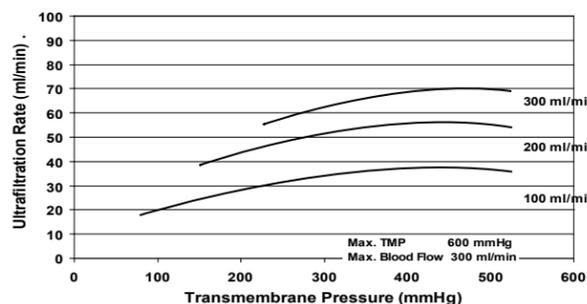

Figure 1: Fresenius HF3000 and HF3000TSB Hemoconcentrator ultrafiltration rates
- Fresenius filtration performance studies; inlet conditions Hct 25%, total protein 6.0 g/dl, temp. 37° C. Refer to Figures 1 & 2 below. Filtration rate will vary according to blood flow rate (Q_b), TMP, temperature, hematocrit, and protein concentration.